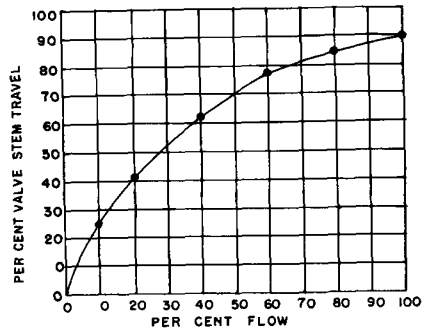
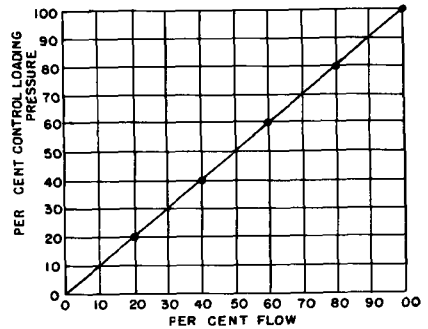
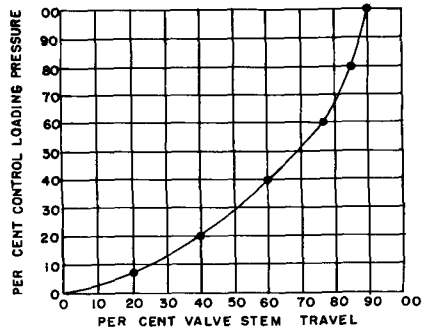

FIGURE 10 - Valve Characteristic
FIGURE 11 Desired Control
FIGURE 12 Cam Characteristic
1 Use the straight line cam B or B-1/2 to determine the actual flow vs valve position characteristic (see Figure 10). (The per cent of control loading range with the B or B-1/2 cam is equivalent to the per cent of Valve position )
2. Decide upon the exact flow vs control loading pressure characteristic desired (see Figure 11).
3 Take values for per cent valve stem travel from step 1 (Figure 10) and for per cent control loading pressure from step 2 (Figure 11) and plot a curve as shown in Figure 12.
and turn valve nut (Figure 12) out of pilot valve body.